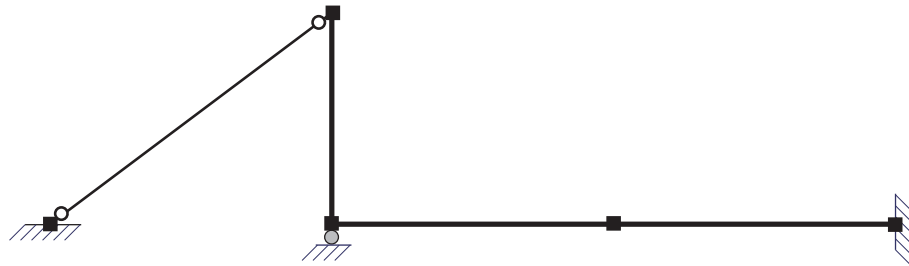

Figure 5: Bending moment distribution
1. Draw the bending moment distribution for the *prestressed* structure under  $w$  in Fig. 5 after clarifying your sign convention for positive/negative moments. Be sure to record in Fig. 5 the end moment values and any other relevant moment values along the length of all elements after supplying calculations for their determination.